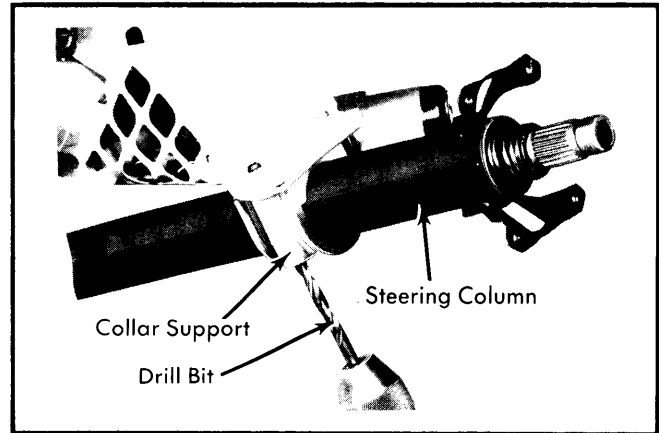

Fig. 1 Drilling Out Shear Bolts and Dropping Column Mounting Collar – Fox Models Shown
3) Remove upper instrument panel trim to make shear screws accessible. **NOTE** – These screws are also upper steering column support screws. Drill off heads of shear screws. Remove steering lock and allow to hang by wiring. Remove steering column (Fig. 1).